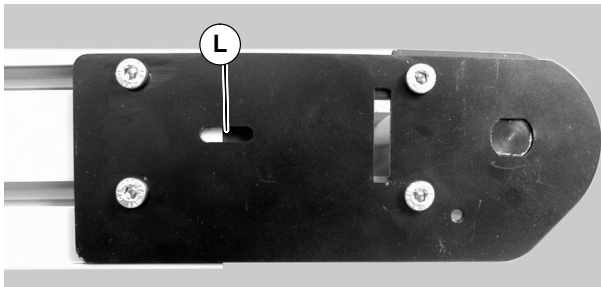

Figure 10
10. Extend head plate assembly until proper tension in the belt is achieved. If proper tensioning can not be obtained before the belt life indicator is all black (L of Figure 10) the belt must be replaced.